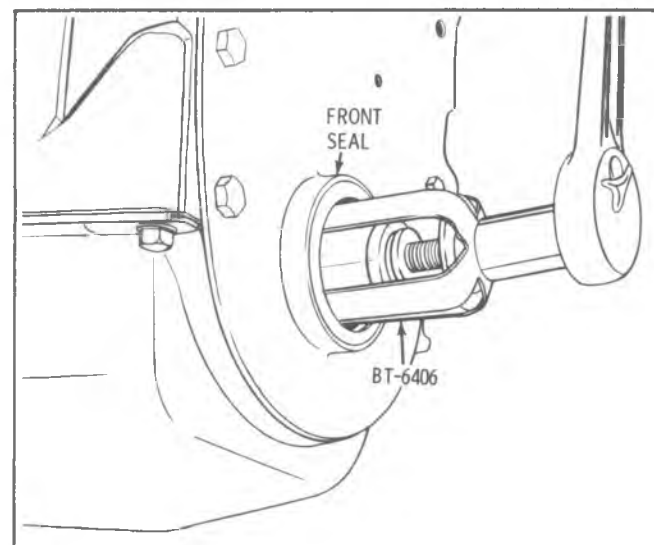

Fig. E-79—Front Oil Seal Removal
3. Using Tool BT-6406, remove oil seal as shown in Fig. E-79.